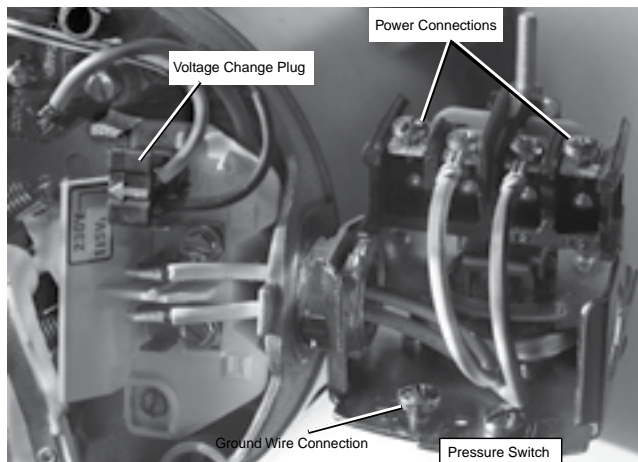

Figure 14: Voltage set to 230 V, Plug Type
4. Attach the incoming power leads to the two outer screws on the pressure switch as shown in Figure 14.
5. Attach the ground wire to one of the grounding connections, shown in Figure 14.